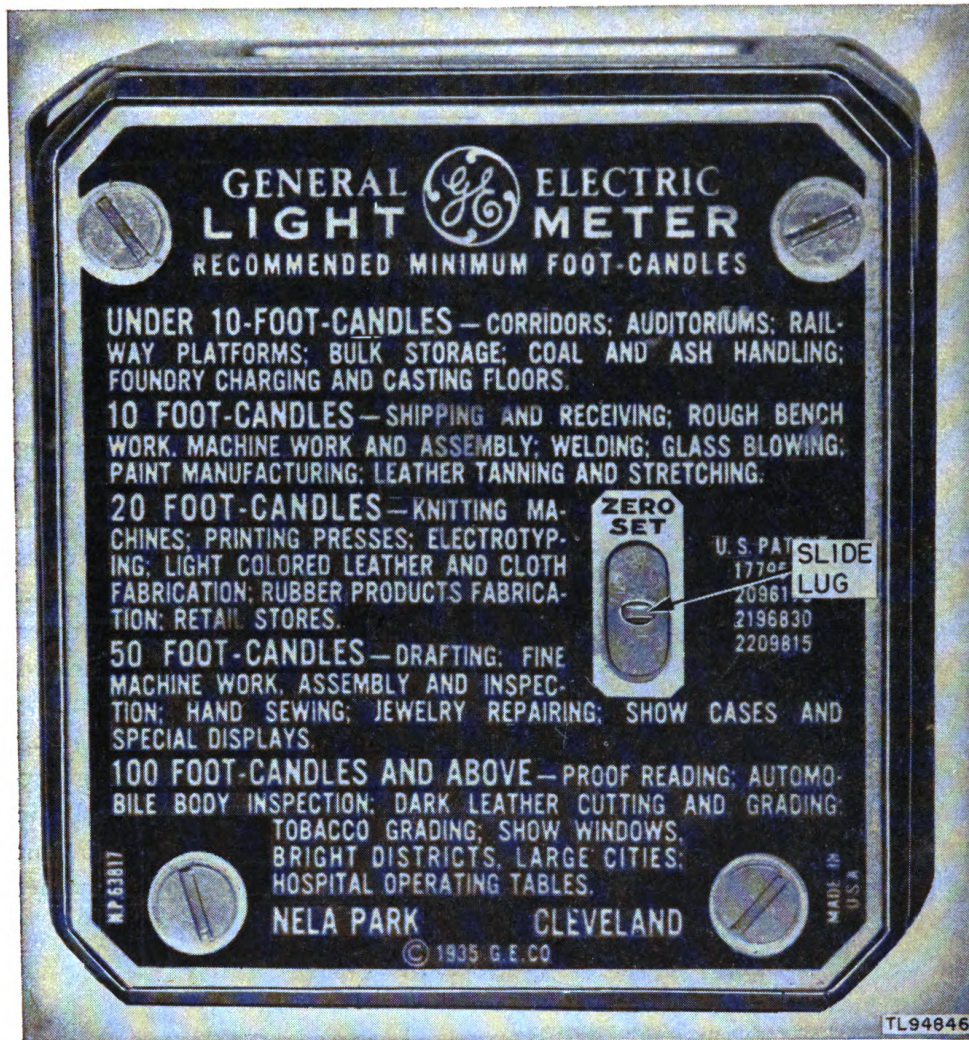

Figure 2. Backplate of light meter.
*b.* BACK (fig. 2). The back of the light meter is fitted with a zero adjusting slide lug for positioning the microammeter needle to zero. The backplate of the light meter lists the recommended light intensities for performing certain jobs and for work in various localities.
*a. ZEROING METER (fig. 2).* The light meter must be checked occasionally to see that the needle is pointing to zero when no light is reaching the cell. An adjusting slide lug is built into the backplate of the case and labeled ZERO SET. To zero the meter, cover the cell window with a light-proof piece of cloth or other material to exclude all light from the cell, and move the lug either up or down until the needle points exactly to zero. To insure accurate readings, make this adjustment before each use of the instrument, with the meter in the position in which it is to be used; that is, vertical or horizontal.